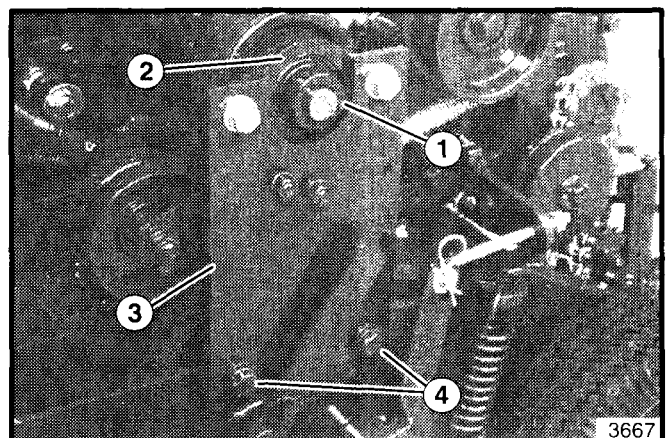

Figure 17. Drive Shaft Bearing Support
4. Loosen the set screw in the locking collar on the drive shaft (see figure 17). Insert a punch in the small hole in the collar and use hammer to tap the collar clockwise (opposite direction of engine rotation) until it's loose (approx. 1/4 turn). Remove the collar.